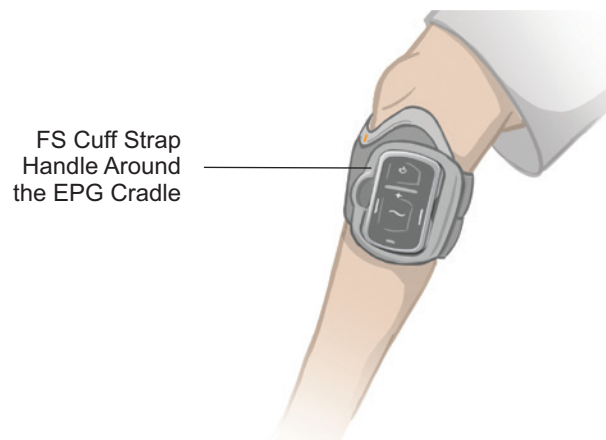

Figure 6-1: Regular Lower Leg FS Cuff fastened on the right leg.
The lower leg FS Cuff Strap is used to hold the lower leg FS Cuff in place on the leg. The lower leg FS Cuff Strap is elastic, and fastens around the leg and the EPG Cradle. See Figure 6-1. The FS Cuff strap for the Regular lower leg FS Cuff comes in four sizes: small (S), medium (M), large (L), and universal. The FS Cuff strap for the small lower leg FS Cuff comes in two sizes: extra small (XS) and extra extra small (XXS).